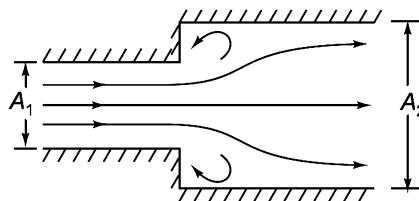

FIGURE 18.35 Sudden enlargement.
- (a) **Sudden enlargement:** It is as shown in Figure 18.35. The velocity is reduced and pressure increases. Eddies formation gives rise to head loss.